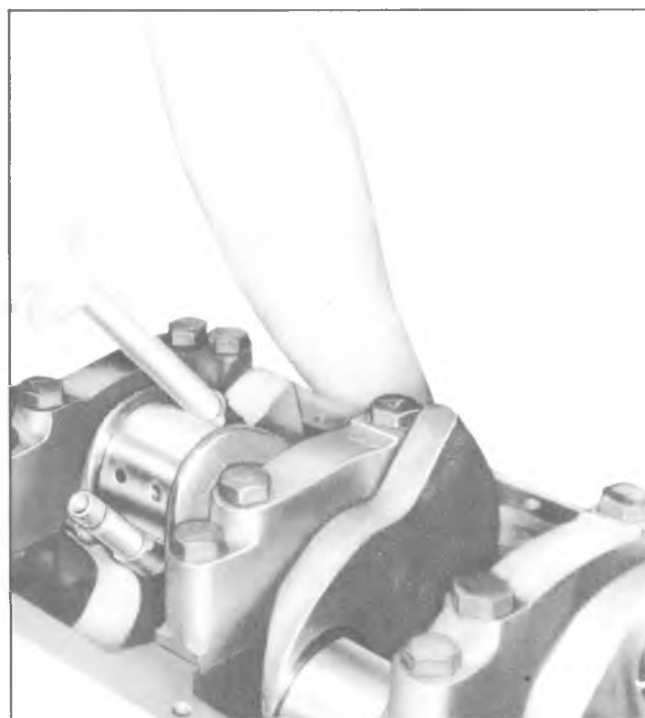

Fig. 6A-60-Removing Connecting Rod Piston Assembly
3. Remove connecting rod cap and install Tool J-5239 (3/8") or J-6305 (11/32") on studs. Push connecting rod and piston assembly out of top of cylinder block (fig. 6A-60).